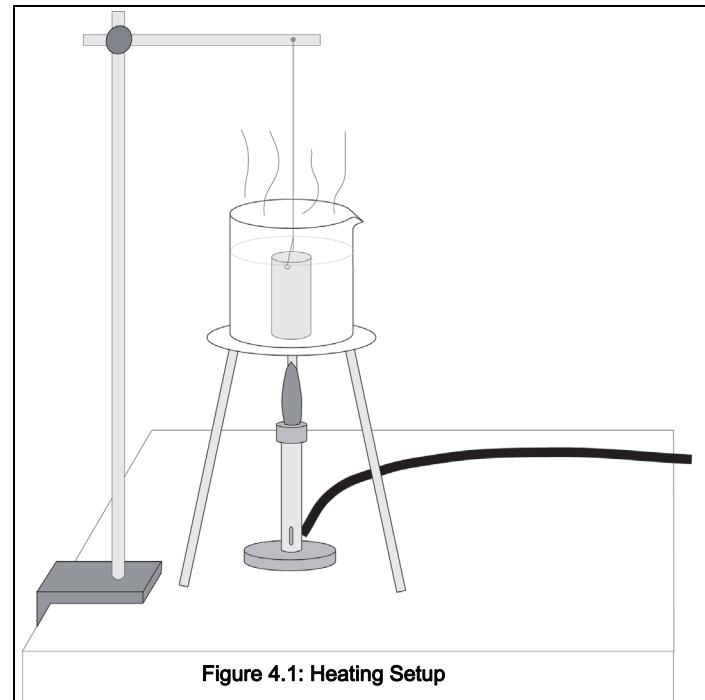

Figure 4.1: Heating Setup
1. Heat a beaker of water to boiling. While the water continues to boil, hang the object by a string so that the object is completely submerged in the boiling water but it is not touching the bottom of the beaker. Allow the object to come to equilibrium with the boiling water (wait about 5 minutes). See Figure 4.1.